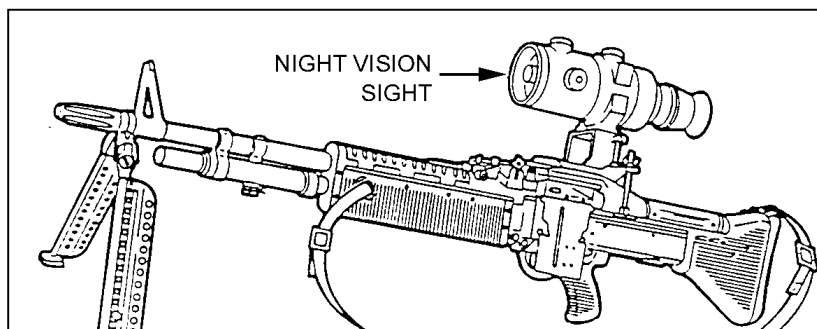

Figure G-58. Mounting the AN/PVS-4.
(5) The gunner installs the sight on the M60 mounting bracket assembly by positioning it in the groove on top of the bracket so that the scribe line on the bracket is aligned with the scribe line on the sight mounting adapter. He tightens the lever screw assembly to secure the sight to the bracket. He uses an empty cartridge case placed over the lever arm to increase leverage as the screw is tightened. (See Figure G-58.)